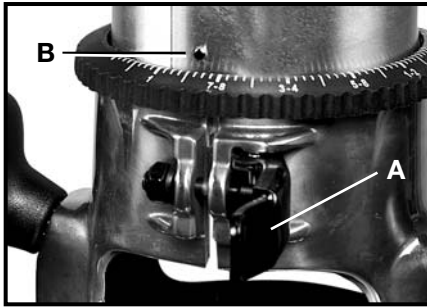

Fig. 1
- (a) Open the clamp (A) Fig. 1.
- (b) While holding base, turn power unit COUNTERCLOCKWISE until lower pin (B) in motor housing is disengaged from groove in base.
1. Open the clamp (A) Fig. 1 and set the power unit in the base unit.
2. Align the lower pin of the power unit (B) Fig. 1 with the groove in the base.